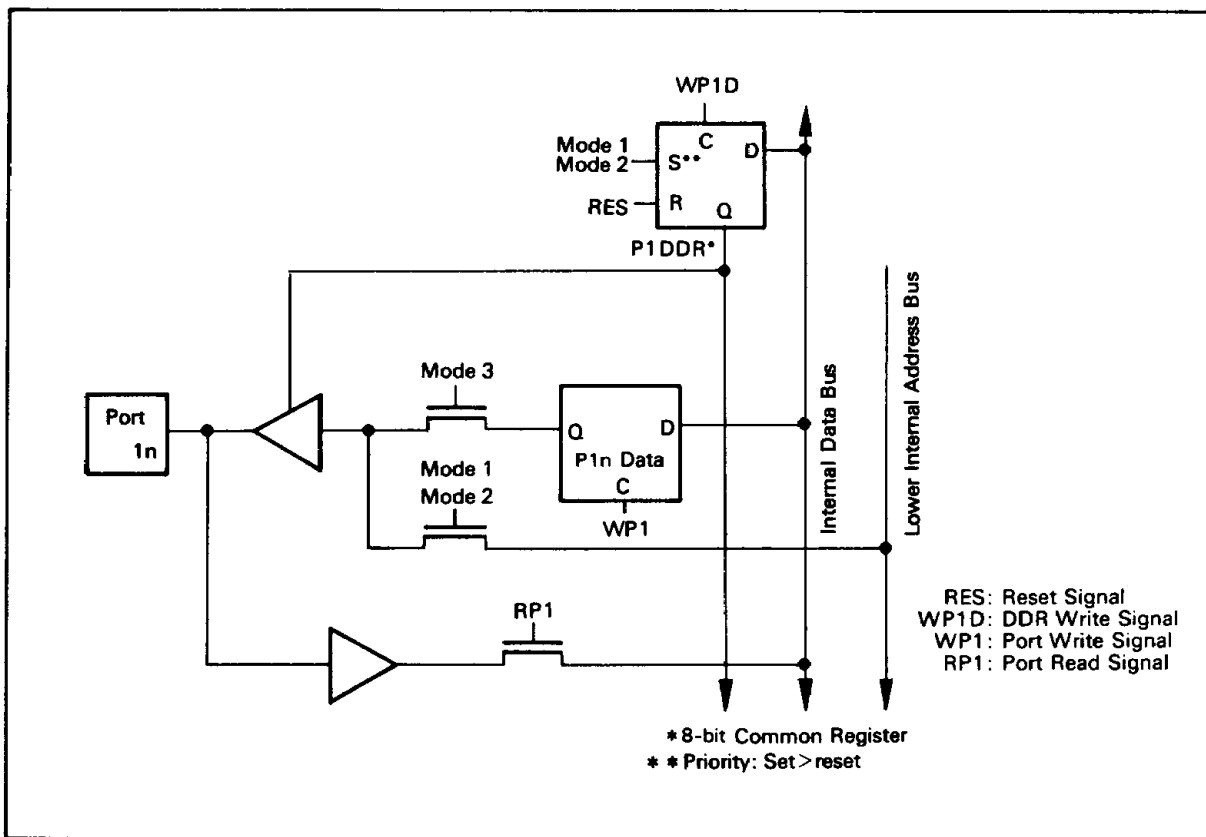
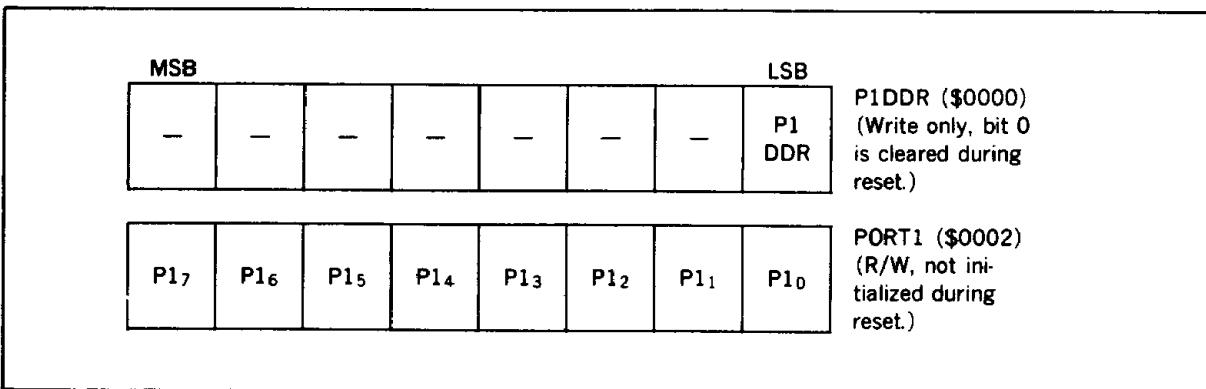

Figure 9. Port 1 Block Diagram
Figure 10. Port 1 Register and Data Direction Register
**Port 1 :** Port 1 is an 8-bit I/O port (figure 9). The LSB of the DDR (\$0000) selects the data direction of the whole port (Figure 10). In the expanded modes (1 and 2) port 1 is the lower address bus ( $A_7 - A_0$ ). Port 1 can drive one TTL load and 90 pF capacitance.